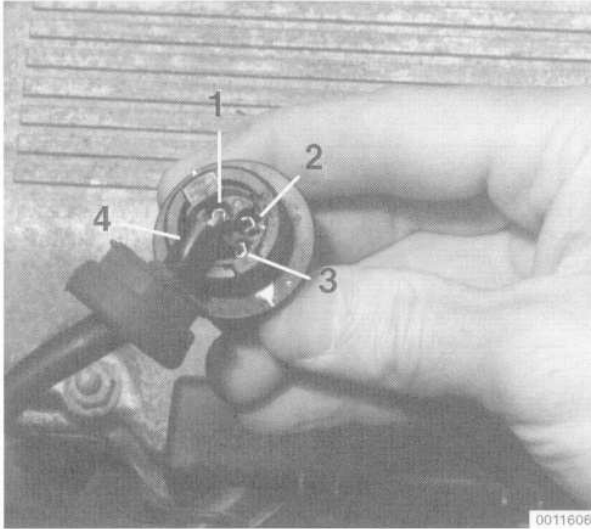

Fig. 14. Oxygen sensor connector terminal identification (M20 engine shown).
1. Connect a digital voltmeter to pins 1 and 2 (black wire and yellow wire) in the connector. Leave the connector connected. See Fig. 14.